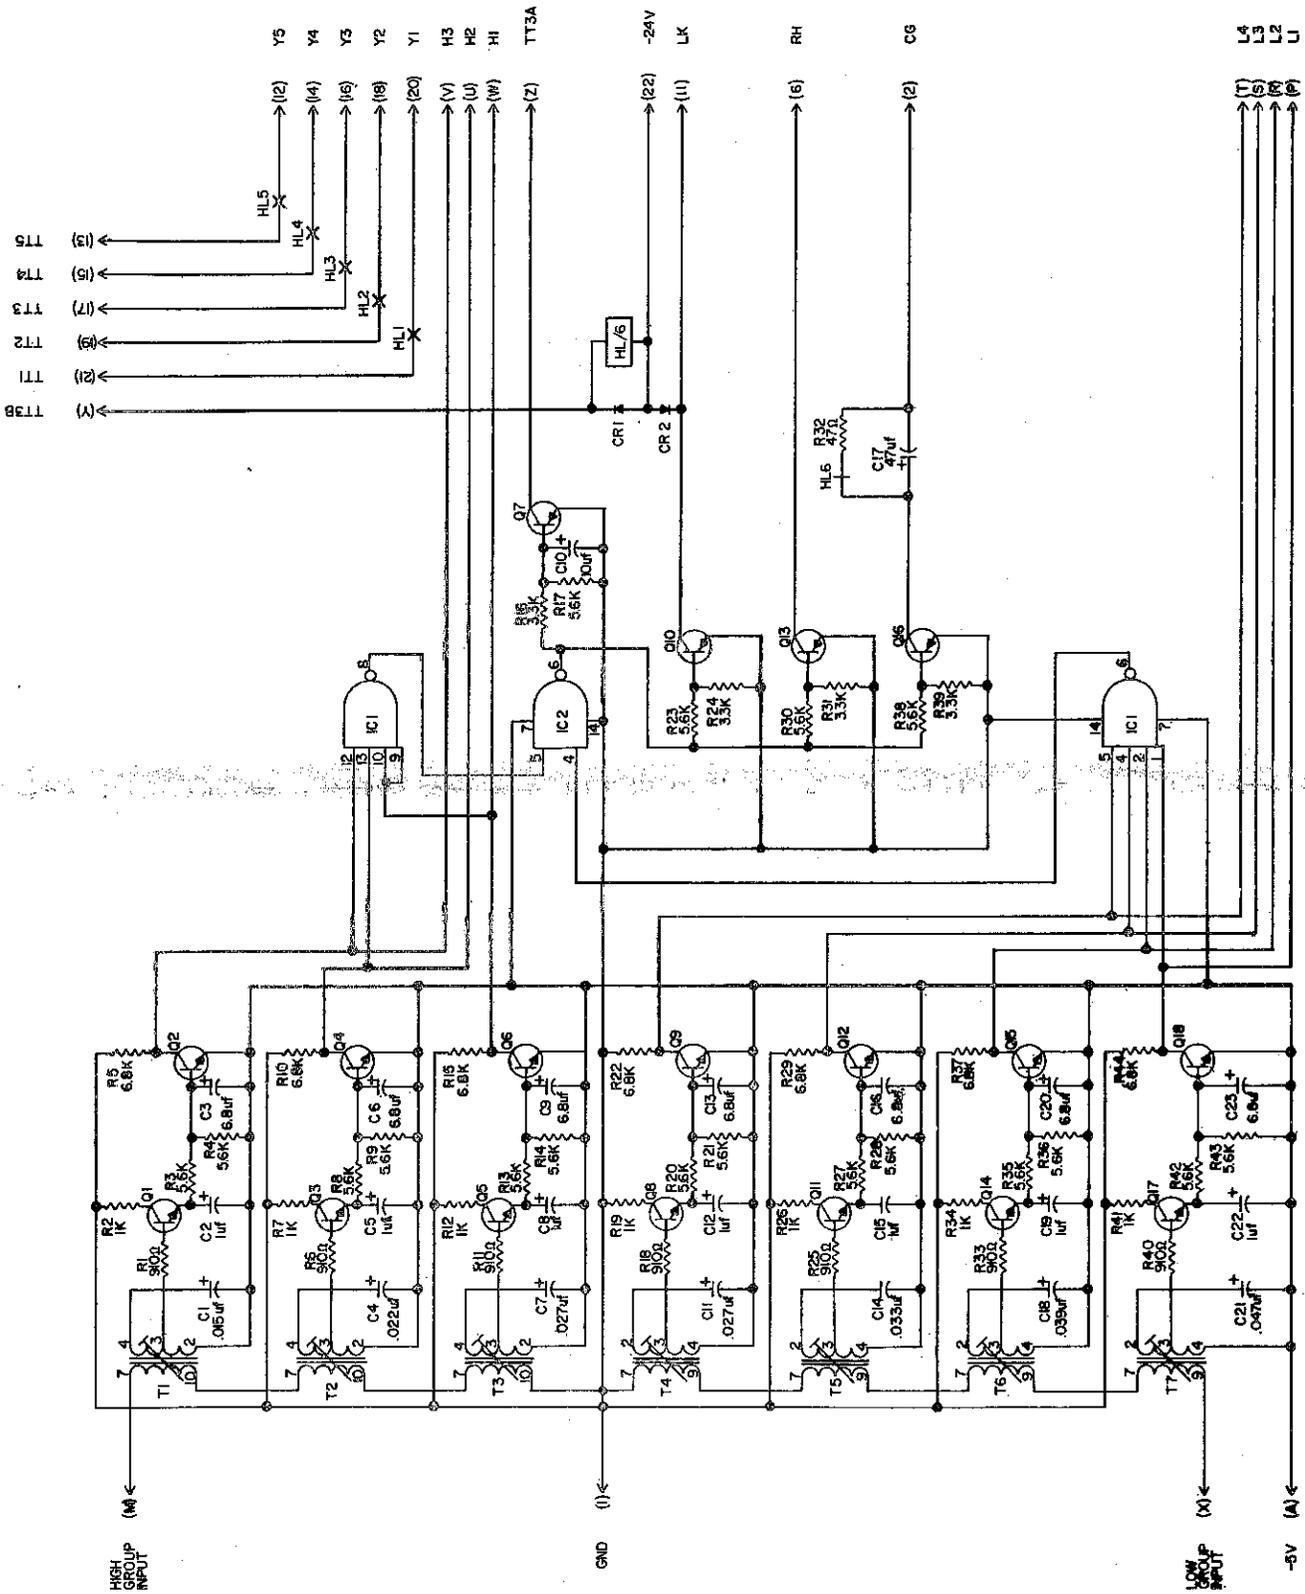

Fig. 5 - Circuit Diagram, K166A KTU
**2.05** K166A, Pushbutton (Tone) Dial Detector Card. One is used per system in conjunction with a K166B Translator Card to adapt the intercom system to accommodate pushbutton dialing. Approximate dimensions in inches are 5 3/8" W x 5 5/8" L x 1¼" D. (22 dual contacts.) Refer to fig. 5.